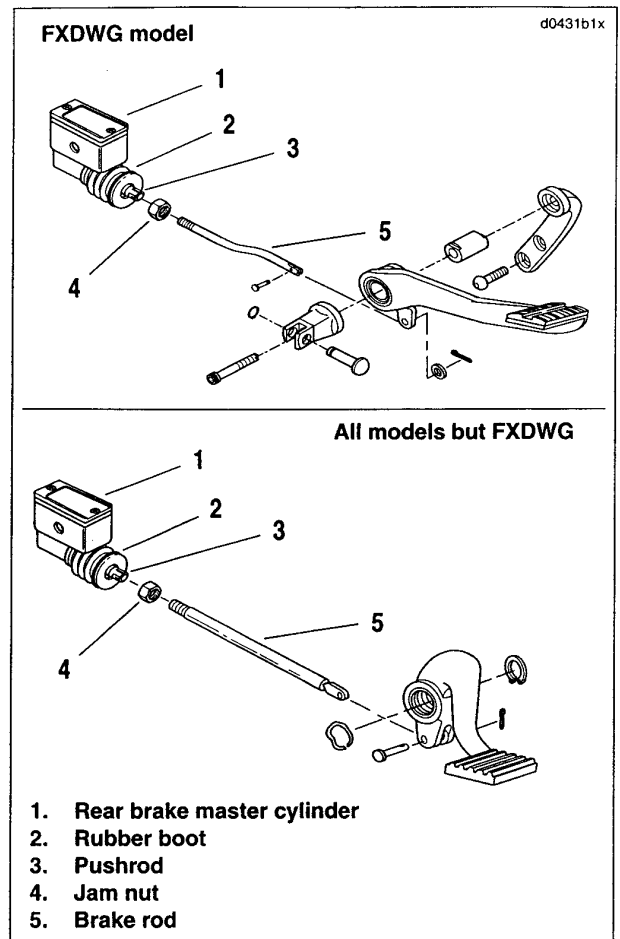

Figure 1-12. Rear Brake Pedal Height
1. See Figure 1-12. Brake rod (5) is threaded into pushrod (3) in rear brake master cylinder (1), and locked in place with jam nut (4). Loosen jam nut.